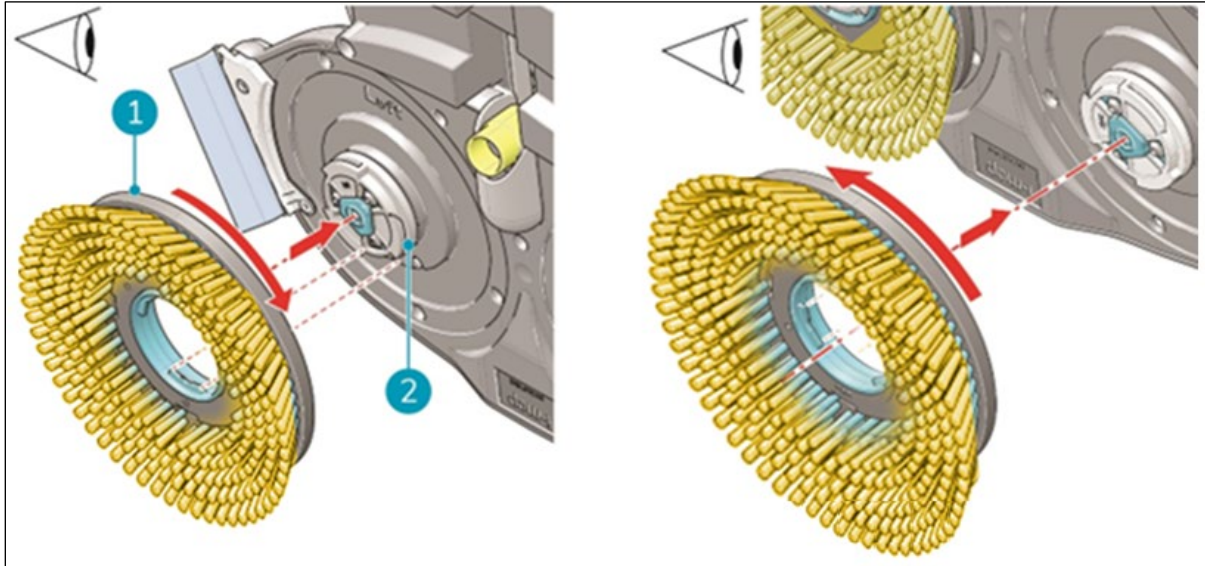

Figure 10
3. Align the left brush (Figure 10, pos 1) with the left motor disk.